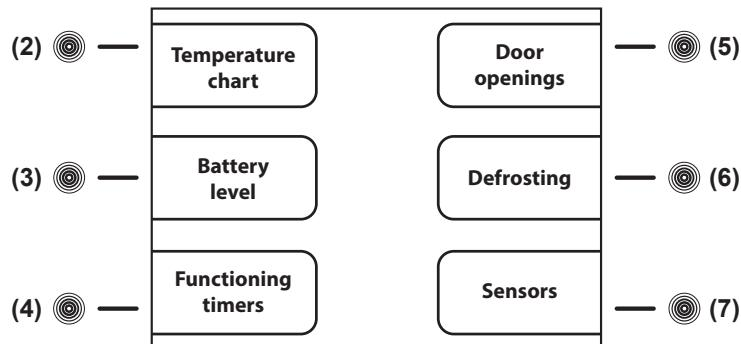

Fig.13
The Datas Menu appears as follow (**Fig.13**)
8.3.2.1 Temperature chart (touch-button (2) Fig.13)
- press the **touch-button (2)Y+** and the **touch-button (4)Y-**, the chart moves on the vertical ordinate axis, the temperature range, granting a wider view of the temperatures
- press the **touch-button (5)X+** and the **touch-button (7)X-**, the chart moves on the horizontal x-axis, allowing a more detailed monitoring of the chart trend in the time (till 600 minutes) and then in hours (till 46 hours)
- press the **touch-button (3)IN** and the **touch-button (6)OUT**, the chart zoom in and out for a enlarged or dwarfed view of the chart in its totality
- press the **ESC touch-button (11)** to return back to the previous menu or **HOME touch-button (10)** to return back to the main screen-shot
8.3.2.2 Battery level (touch-button (3) Fig.13)
- from the datas menu, press the **touch-button (3)** to access to the BATTERY LEVEL screen-shot
8.3.2.3 Functioning timers (touch-button (4) Fig.13)
8.3.2.4 Door openings (touch-button (5) Fig.13)
- from the datas menu, press the **touch-button (5)** to access to the DOOR OPENINGS menu
- press the **touch-button (5)↑** and the **touch-button (7)↓** to scroll the daily reports of the door openings
8.3.2.5 Defrosting (touch-button (6) Fig.13)
- from the datas menu, press the **touch-button (6)** to access to the DEFROSTING menu
- press the **touch-button (5)↑** and the **touch-button (7)↓**, to scroll the various defrost reports
8.3.2.6 Sensors (touch-button (7) Fig.13)